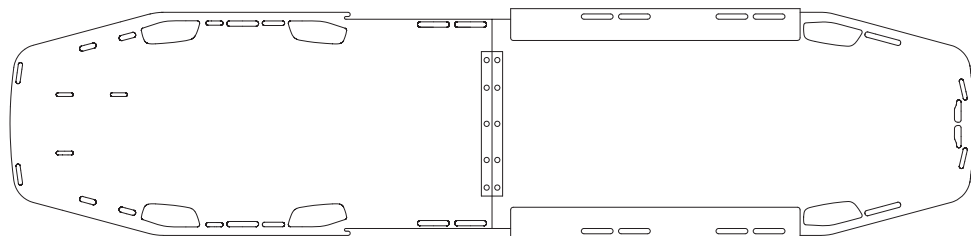

Fig.7
a) Open the spinal board (fig. 7)